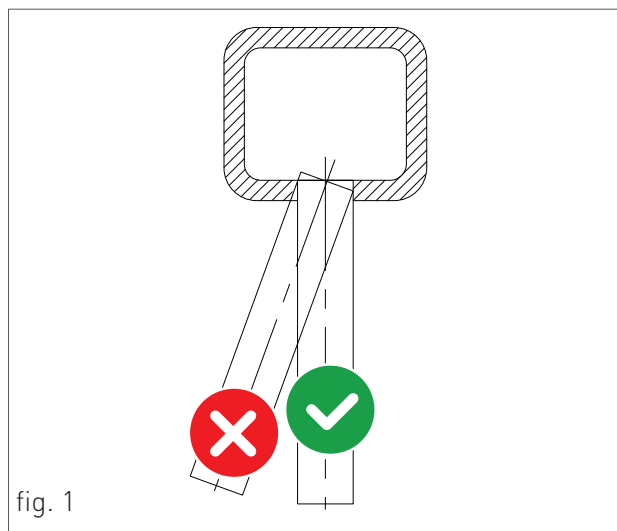

fig. 1
- › The discharge duct must be perpendicular with the opposite internal wall of the chimney or of the fumes exhaust duct (fig. 1).